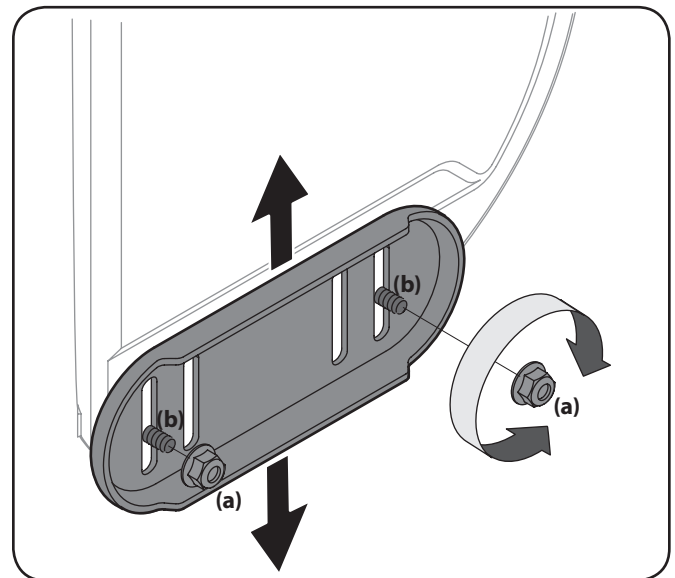

Figure 3-12
1. Loosen the four hex nuts (a) (two on each side) and carriage bolts (b). Move skid shoes to desired position. See Figure 3-12.